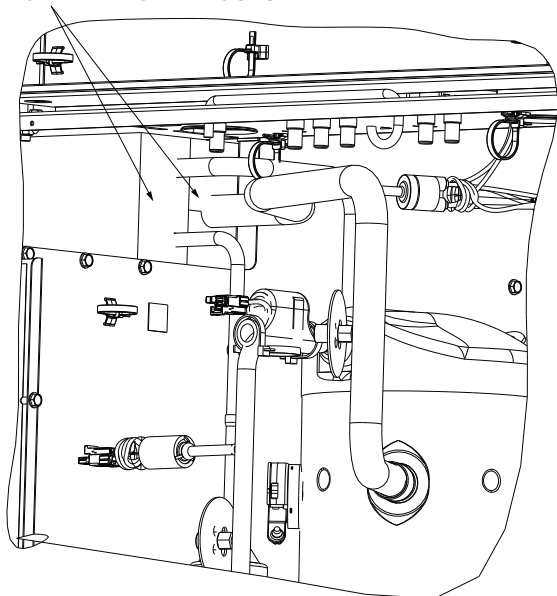

Figure 5. Screw locations at the top of the vestibule
18. Remove ten screws from the vestibule to remove the heat exchanger assembly. See Figure 3, p. 7, Figure 4, p. 7, Figure 5, p. 7, and Figure 6, p. 7.